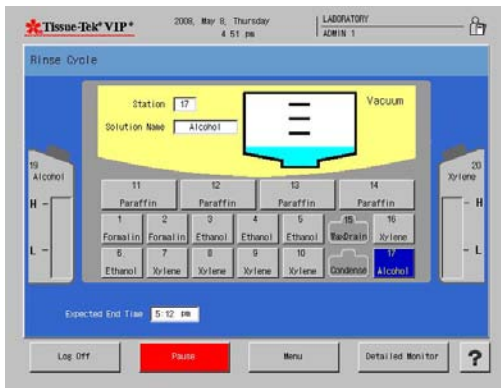

Figure 4-X
- The Rinse cycle Overview Monitor Screen displays (Figure 4-X).